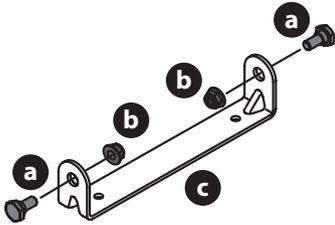

Figure 4
1. Remove the shoulder bolts (a) and lock nuts (b) from the seat mounting bracket (c) included in your hardware pack (Figure 4).